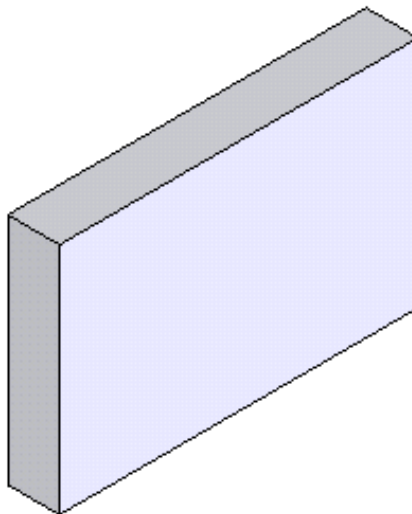

Figure 7-67 Base feature of the model
- Create the base feature of the model by extruding a rectangle of 69mm x 45mm created on **Right** plane to a depth of 10mm, refer to Figure 7-67.
The base feature of the model is shown in Figure 7-67.